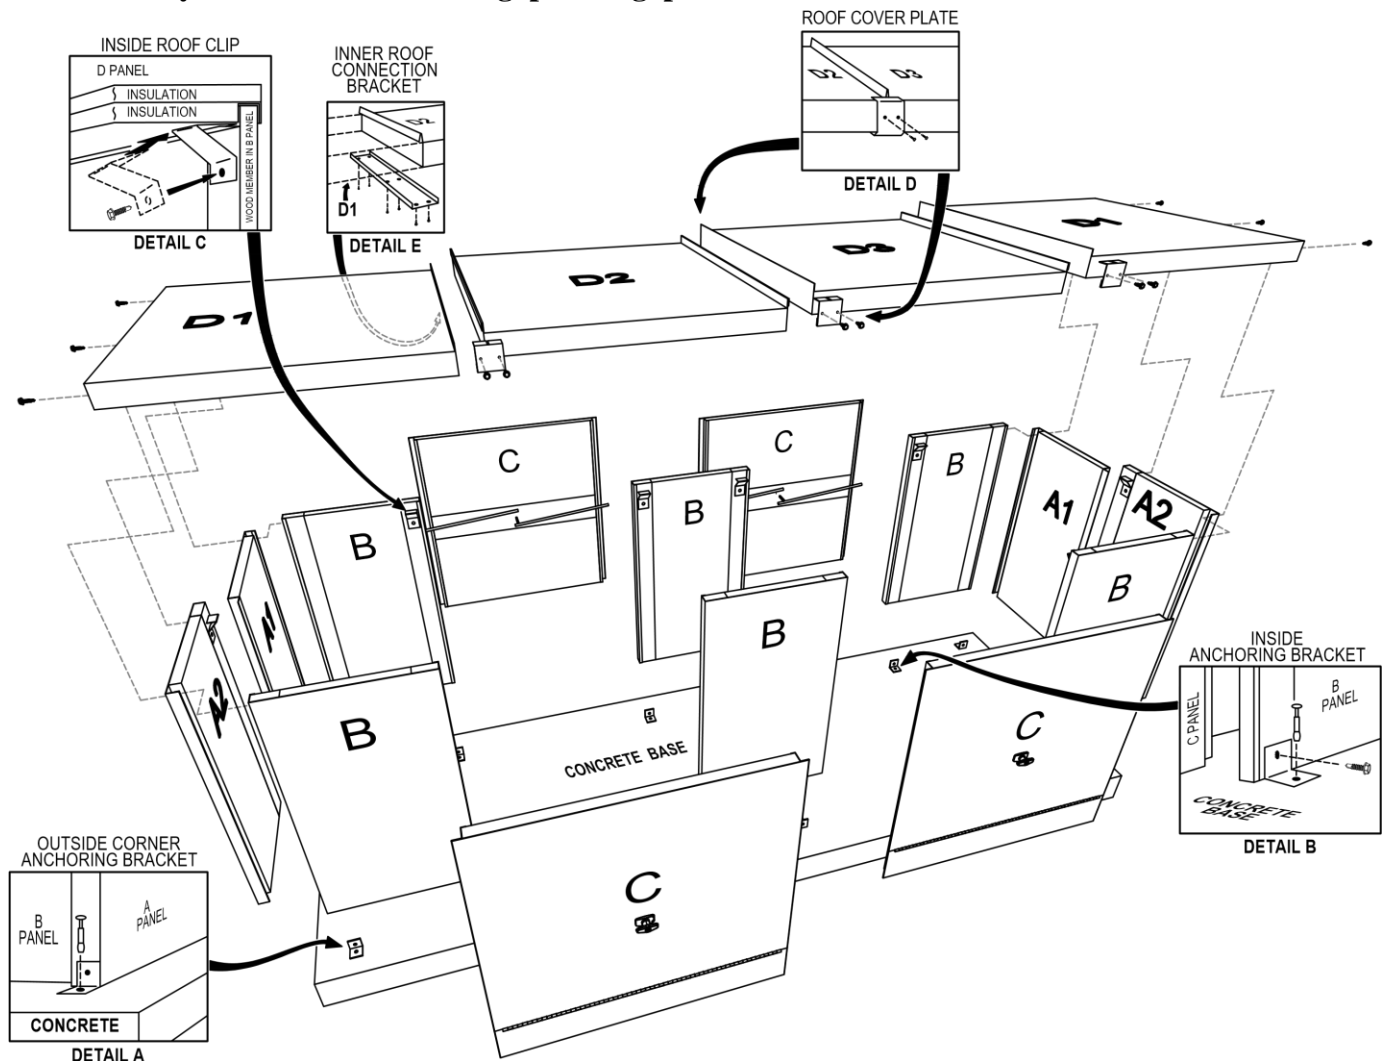

FIG. 2
7. Set one of the “D1” (roof) panels on a “B-A1-A2-B” (corner-end-corner) assembly and then fasten it as shown through the holes provided (Fig. 2) using three (3) Hex Head Screws.